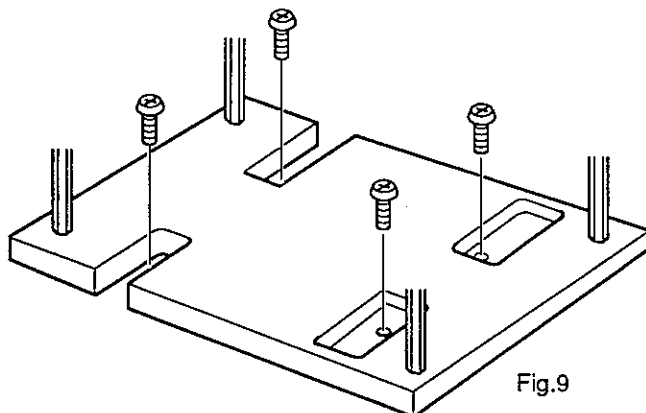

Fig.9
Step 9 Place the unit upside-down and remove the lower flexible bearing assy. (Fig. 9)